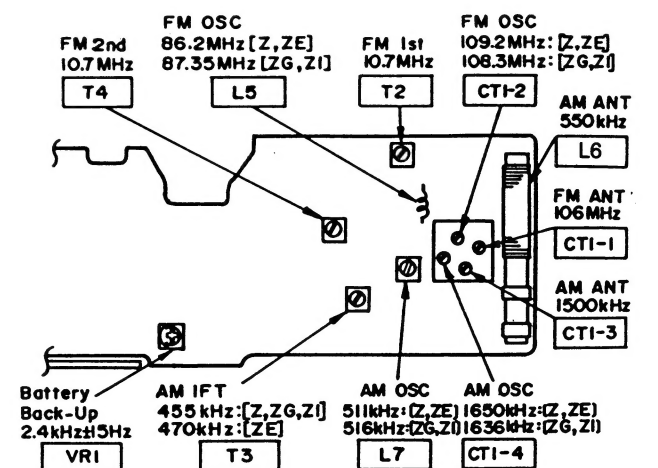

Fig. 3
Procedure 1→2	 <p>1. Remove the 5 screws (①~⑤). 2. Remove the Brightness/Time Set Knob, and then remove the Main P.C.B. 3. Remove the 2 screws (⑥, ⑦), and then remove the power transformer.</p> <p style="text-align: center;">Fig. 3</p>